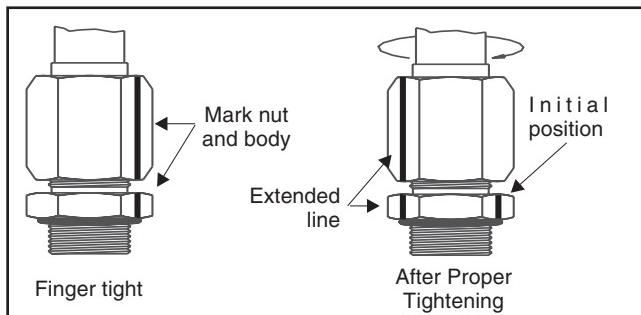

Figure 7.4—Nut Tightened to 2 F.F.F.T.
2. Mark off nut and body (figure 7.4).
4. Mark off final position (figure 7.4).